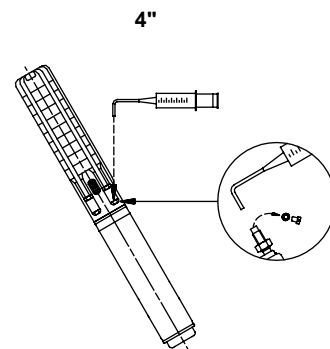

Fig. 3
1. Position the submersible pump as shown in fig. 3. The filling screw must be at the highest point of the motor.
3. Inject liquid into the motor with the filling syringe, fig. 3, until the liquid runs back out of the filling hole.